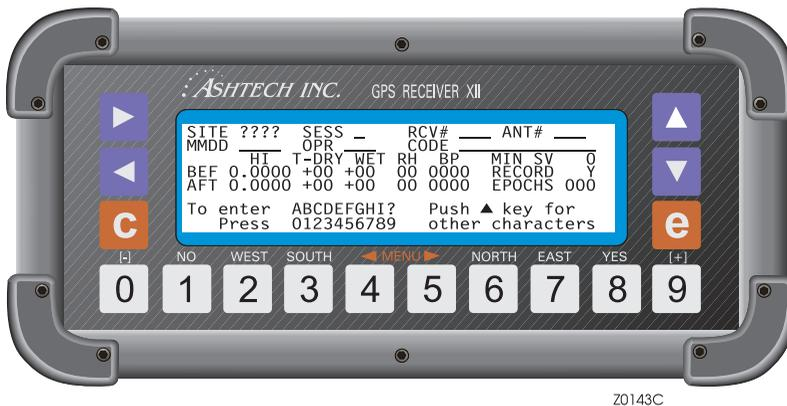

Figure 4.3. Data Entry, Alphanumeric Conversion
1. Press **[e]** to switch to data-entry mode. You'll see the alphanumeric conversion table shown in Figure 4.3.